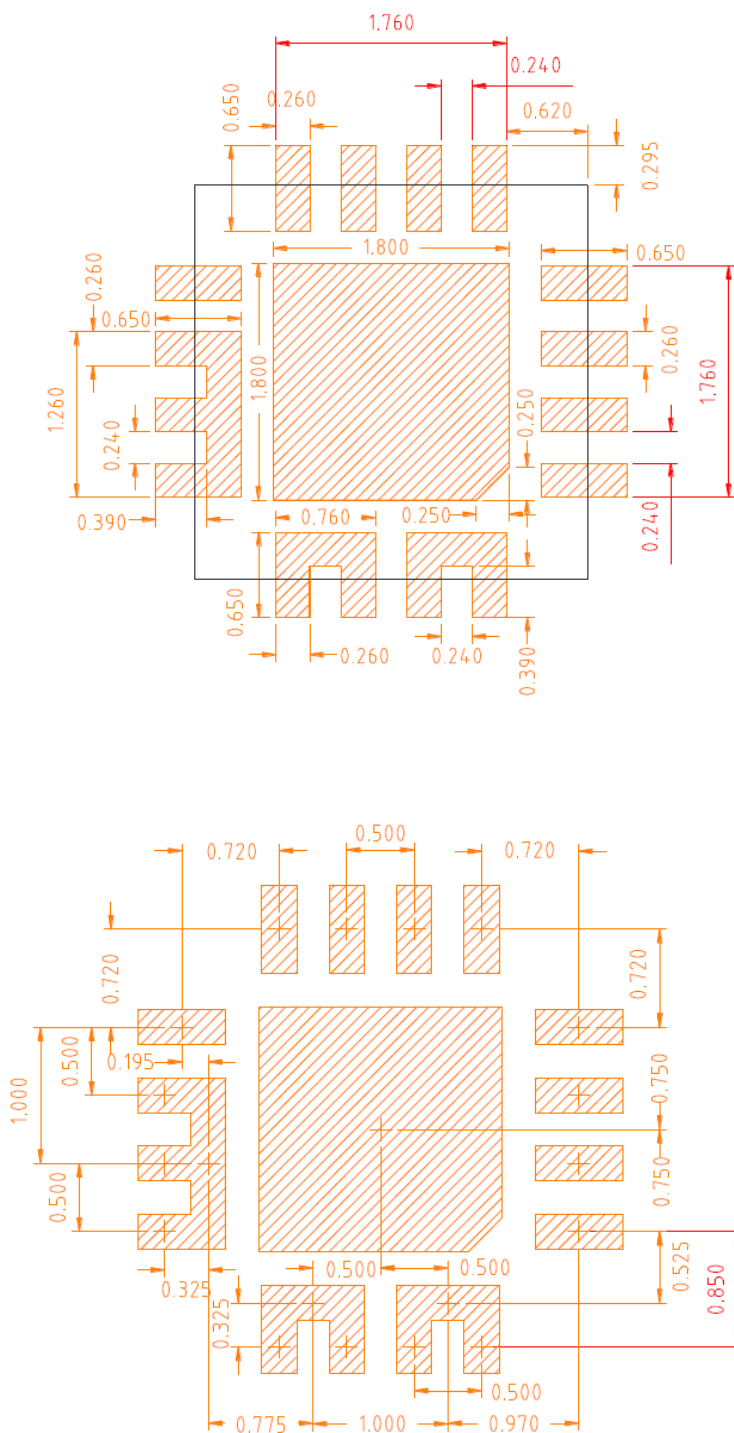

Figure 8-5 PCB metal pad sizing and spacing (all dimensions in mm)
3.1 09-07-21	<ul style="list-style-type: none">• Updated Figure 8-5• Changed "12V" to "5V" in the title of Table 5-6